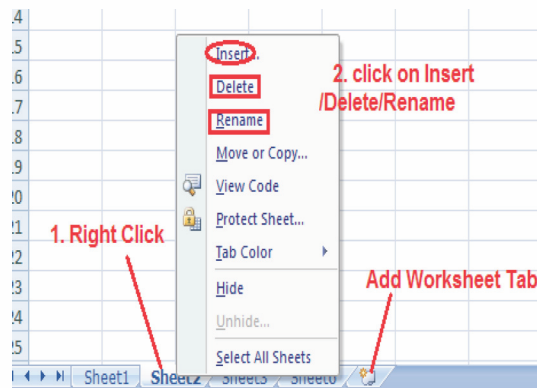

Fig. 14.14
- ➔ To rename your worksheet click on **Format** command in the **Cells Group** in Home Tab, click on **Rename sheet** and give another name to the worksheet. Alternately double click on the sheet tab and rename it OR right click and the mouse short-cut opens where you can click on rename and give another name (Fig.14.14).